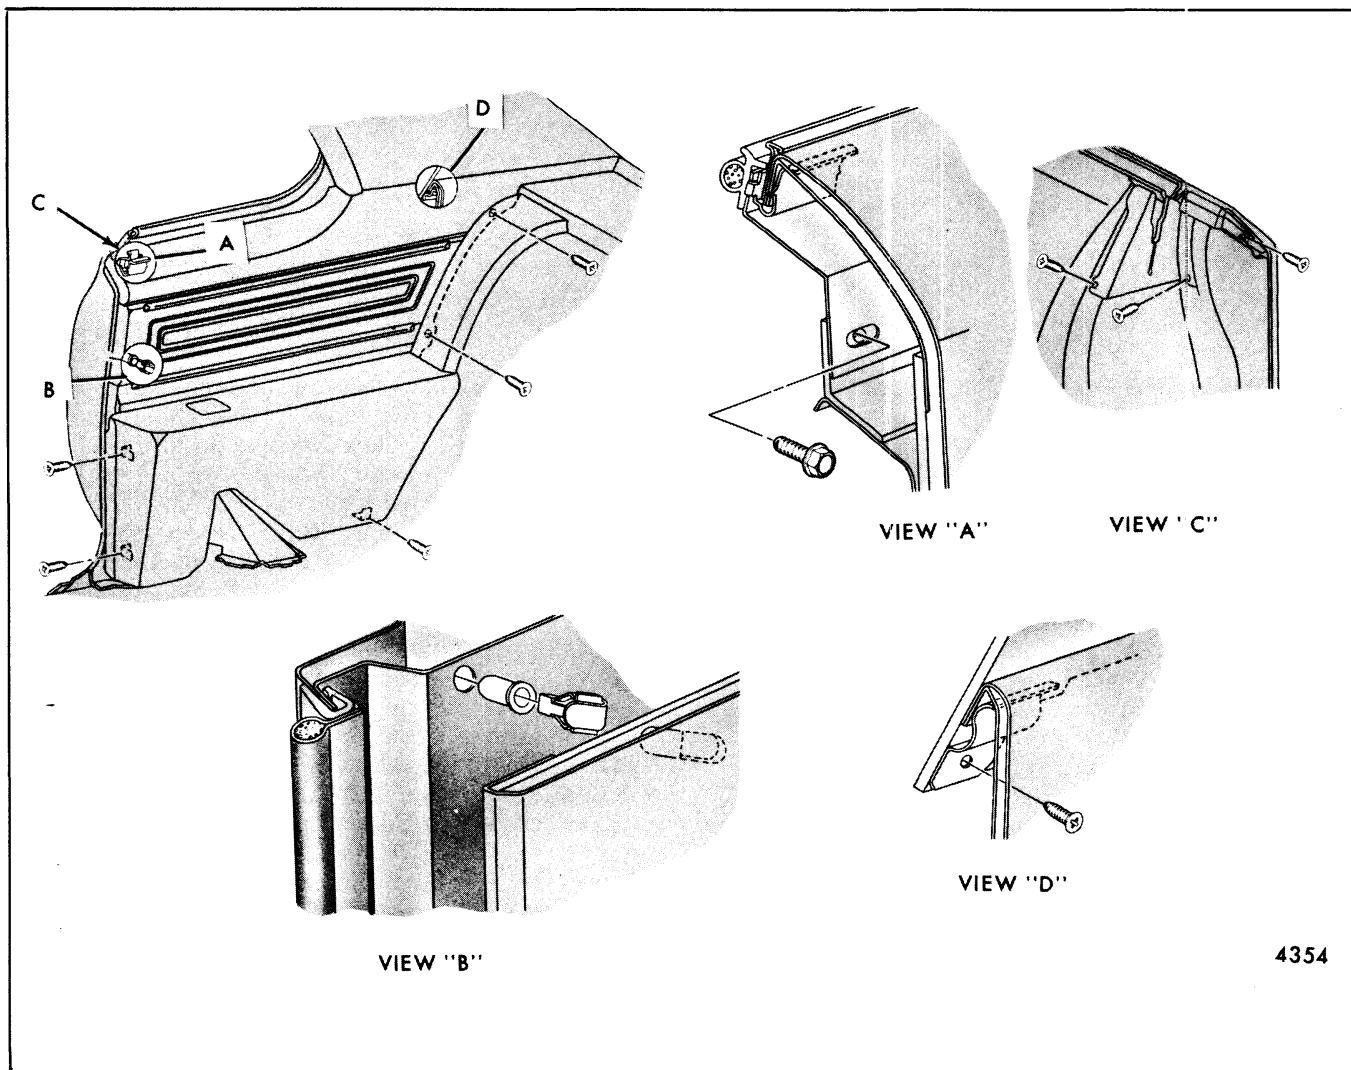

Fig. 6-1-Quarter Trim Assembly Attachment - Two-Door Hardtop Styles ("B" Style Shown)
Certain two-door hardtop and convertible styles are equipped with "Floor-Mounted Type" arm rests. The arm rests extend from the arm position to the floor, and from the body lock pillar to the rear seat back panel (Fig. 6-1).
3. On "B, C and E" styles, remove attaching screw at upper rear of arm rest (Fig. 6-1).
4. Where present, remove attaching screw(s) from front and/or rear of quarter trim assembly (Figs. 6-1, 6-7 and 6-8).